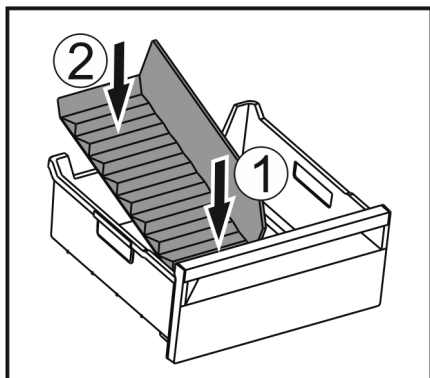

Fig. 174
- Insert the front part of the ice compartment divider. Fig. 174 (1)
- Lower the rear part of the ice compartment divider to the drawer bottom. Fig. 174 (2)